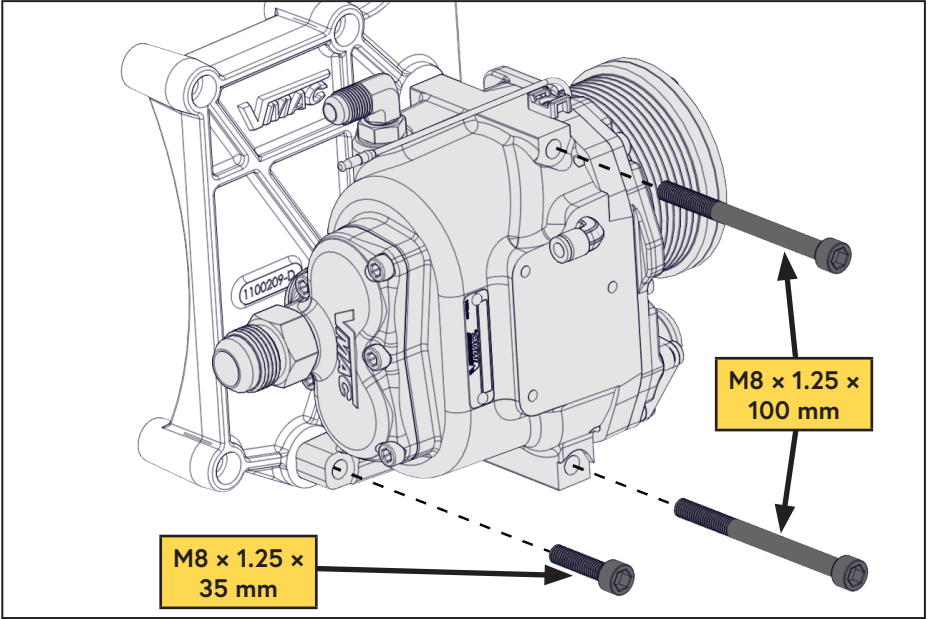

Figure 13 — Mount compressor
- Apply Loctite 242 (blue) and mount the compressor onto the bracket using the 3 supplied fasteners (Figure 13).